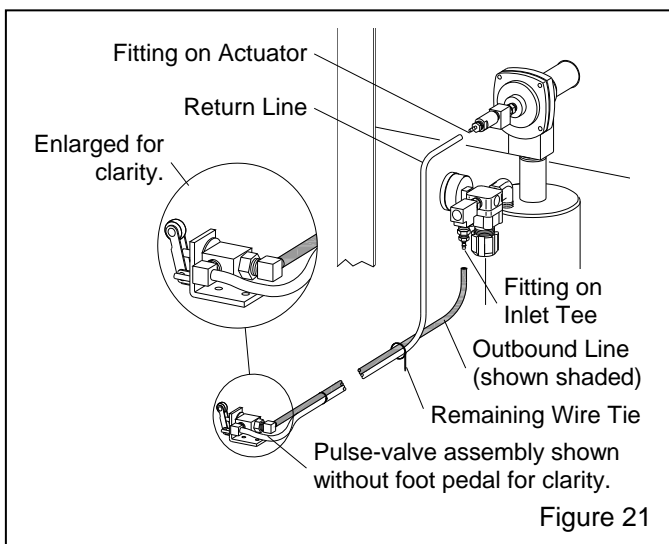

Figure 21
**4.3.8** Refer to Figure 21 and connect the foot-pedal pulse tubing.